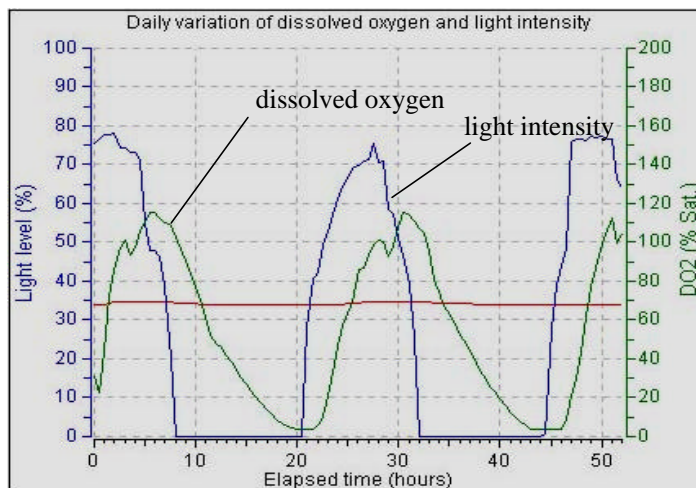

Fig.2 A graph showing the variation of dissolved oxygen and light intensity over 52 hours
6. After sufficient amount of data is collected, stop the data logger. Use the computer software to plot the data in a suitable form (Fig.2).